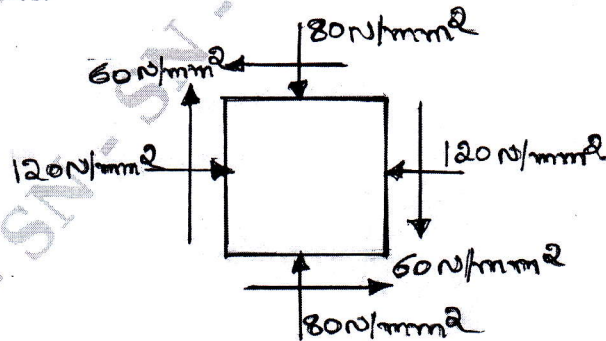

Fig.Q.3(b)
- b. The state of stress in a two dimensionally stressed body is shown in Fig.Q.3(b). Determine graphically (by drawing Mohr's circle), the principal stresses, principal planes, maximum shear stress and its planes. (08 Marks)